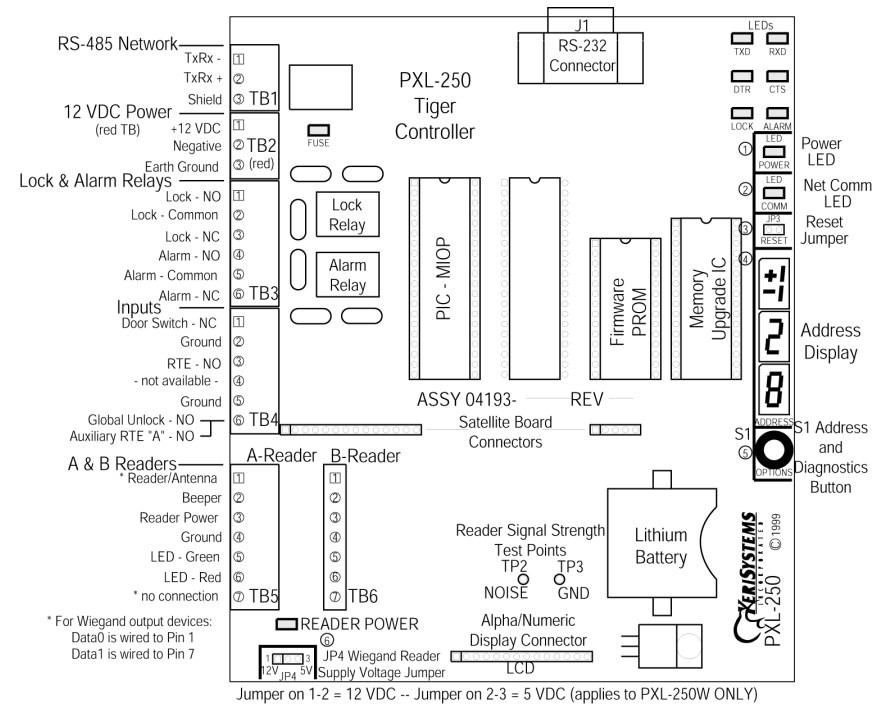

Figure 1: PXL-250 Board
*NOTE: Early revisions of the surface mount PXL-250W mislabeled the JP4 jumper as JP5. All instructions for the JP4 jumper apply to the jumper labeled as JP5 (see Figure 1 for the location of the jumper).*